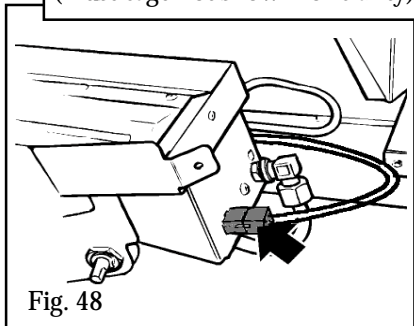

Fig. 48
- Detach the burner wiring loom connection at the right side of the burner (see figure 48).